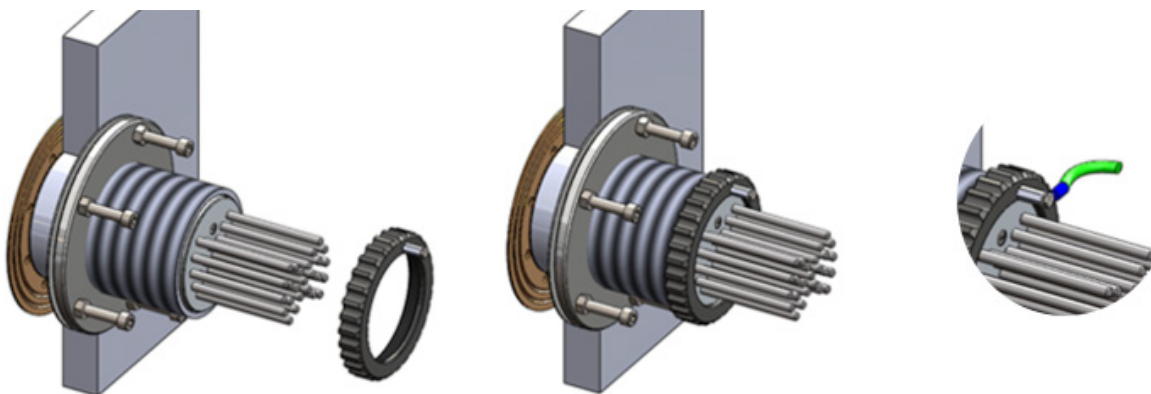

Fig.4.3
5. You will now need to re-install the rear locking ring which is packed separately. This locking ring is simply screwed onto the rear of the housing until it comes to a stop. It is crucial that this ring is screwed down all of the way until this stops. Tools are included in this kit to help with this Installation. The larger style half-spanner tool, marked 'A', will fit into the grooves on this locking ring. Slide the 3-hole tool, marked 'B', down the pins on the rear of the light unit and you will be able to leverage this ring until it is tight against the body of the light unit. (See Fig.4.3)..
6. **Bonding:** Attach the vessels bonding / cathodic protection system using the supplied earth bolt to the locking ring. Ensure the end of the bolt bites in to the anodising of the housing. This is to ensure a good electrical contact to the housing (See Fig. 4.3)